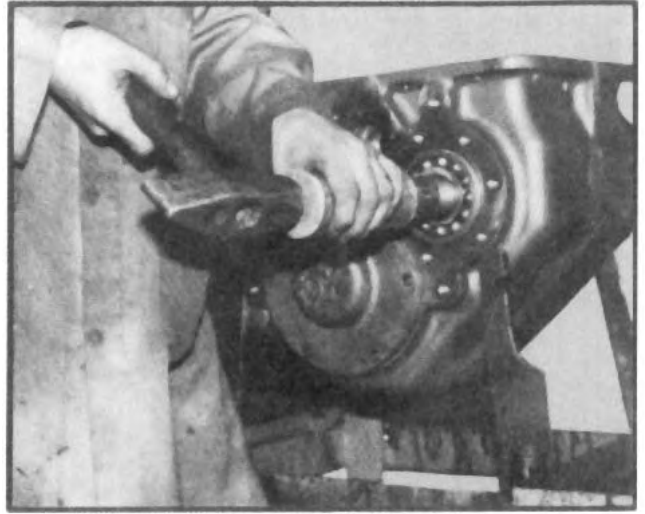

Fig. 9
4. Place a block of wood between the inside of the housing and the inside face of the direct drive gear. Tap the rear of the upper shaft with a soft hammer until the upper shaft is free of the rear bearing and both direct drive gear bearings (See fig. 9).